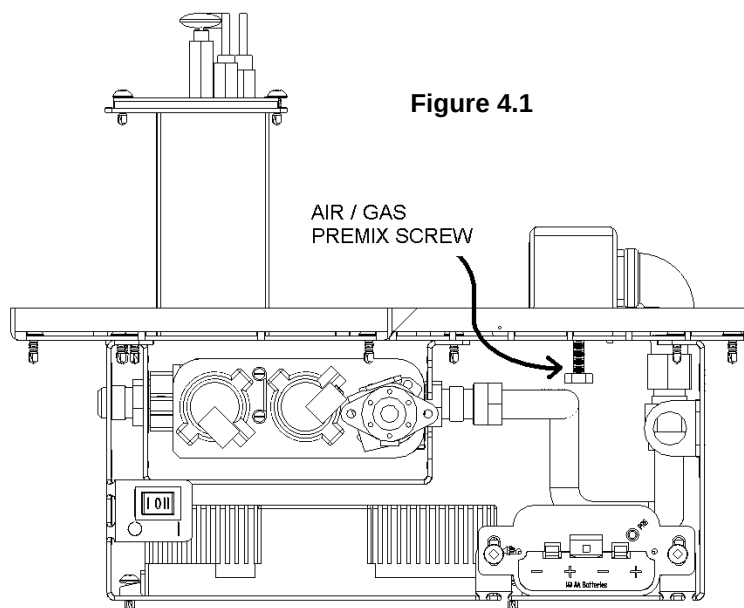

Figure 4.1
The fireplace includes an adjustment for the air/gas premix (figure 4.1). It can be used when converting from natural gas (NG) to propane gas (LP) or vice versa. For natural gas, the air/gas premix adjustment screw must be completely screwed (toward the inside of the combustion chamber). For propane gas, the adjustment screw must be unscrewed (do not remove it completely).
The air/gas premix adjustment screw is located under the combustion chamber. It can be accessed through the small door located at the bottom (figure 4.1).